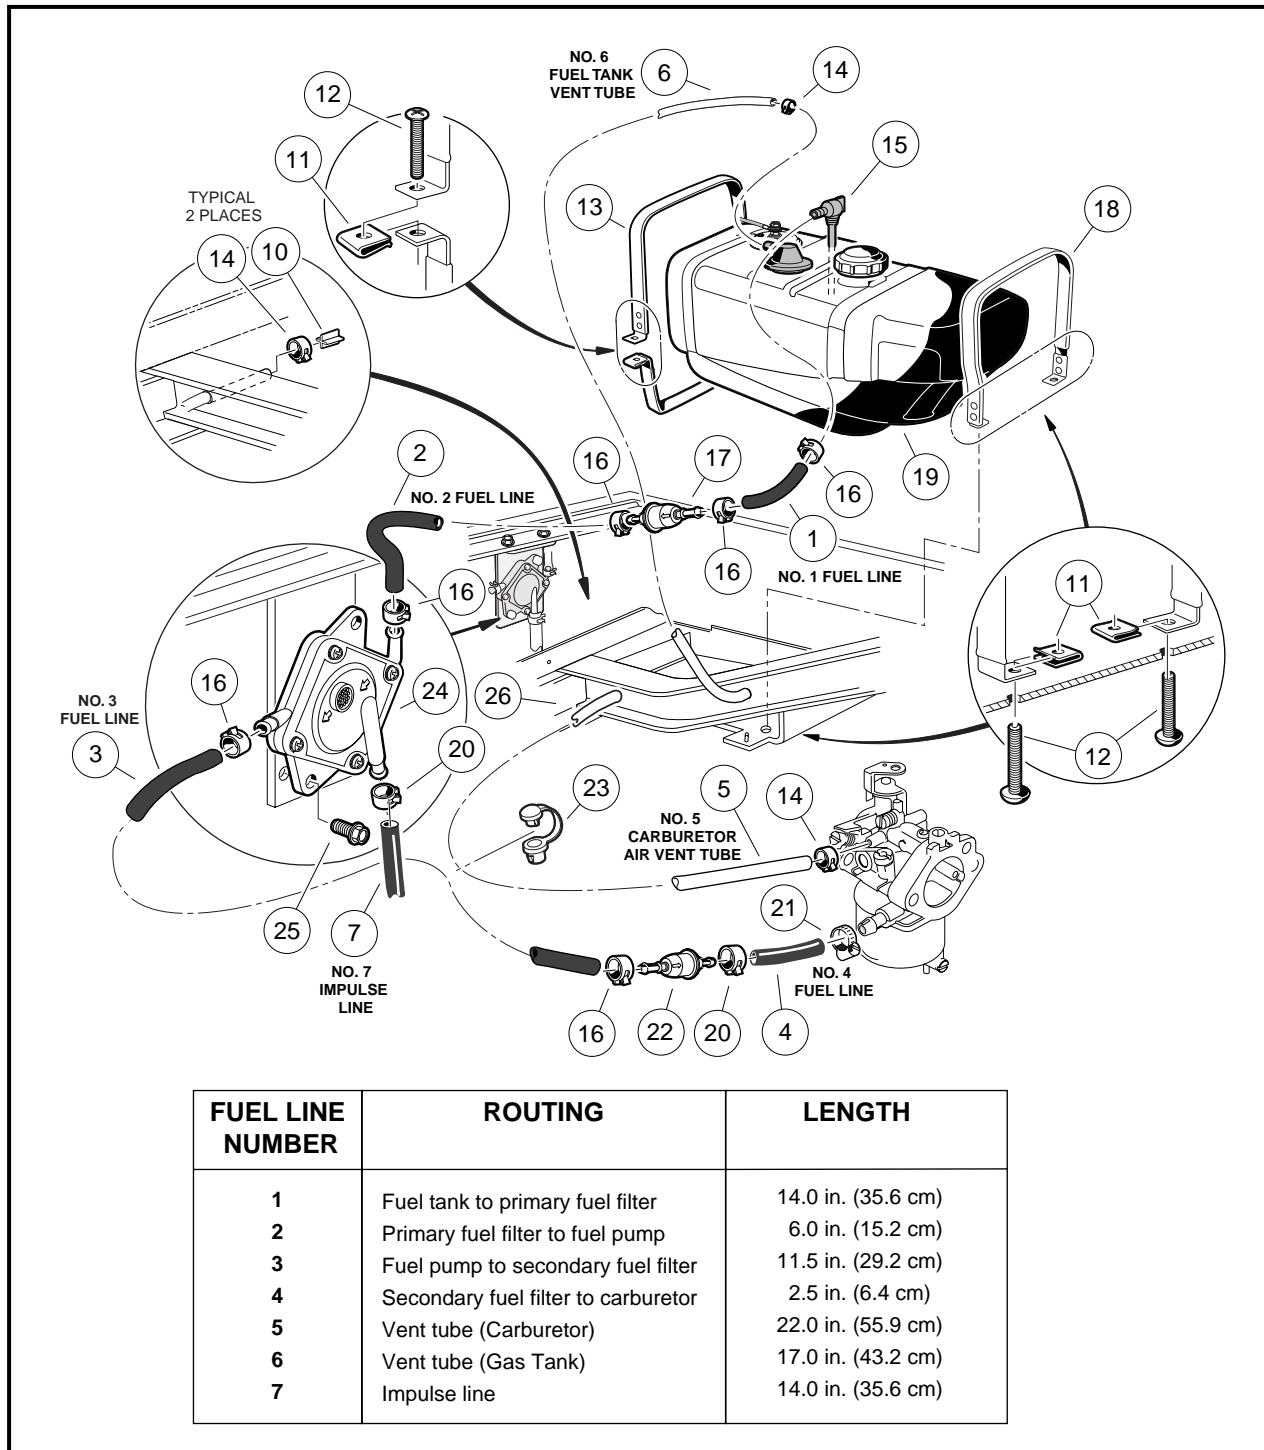

Figure 14-15 Fuel and Vent Lines
Fuel is supplied to the fuel pump and carburetor through flexible lines. Two in-line filters are installed between the fuel tank and the carburetor (**Figure 14-15, Page 14-20**). Fuel filters, fuel lines, and the fuel tank vent should be inspected periodically for leaks.
2. To prevent gasoline drainage, turn the fuel shut-off valve (15) (**Figure 14-15, Page 14-20**) on the gas tank to the closed (OFF) position (**Figure 14-20, Page 14-27**).
3. Remove the primary fuel filter (17) (**Figure 14-15, Page 14-20**):
- 3.1. Remove the clamps (16) and fuel lines (1) and (2) from the filter and plug the fuel lines (**Figure 14-15, Page 14-20**).
4. Remove the secondary filter (22) (**Figure 14-15, Page 14-20**):
- 4.1. Remove the clamps (16 and 20) and fuel lines (3 and 4) from the filter and plug the fuel lines (3 and 4) (**Figure 14-15, Page 14-20**).
1. Install the primary fuel filter (17) in the fuel line. Use new clamps (16) (**Figure 14-15, Page 14-20**).
2. Install the secondary fuel filter (22) in the fuel line. Use new clamps (16 and 20) (**Figure 14-15, Page 14-20**).
2. Remove hardware attaching the fuel pump (24) and lift the fuel pump out of the engine compartment (Figure 14-15, Page 14-20).
3. Remove the clamp (20) and impulse line (7) from fuel pump (**Figure 14-15, Page 14-20**).
4. Disconnect the fuel lines (2 and 3) from the pump and plug them to prevent gasoline leakage (**Figure 14-15, Page 14-20**). See following **WARNING**.
1. Connect to the fuel pump the fuel line (2) that comes from the fuel filter (17). Install a new clamp (16) (**Figure 14-15, Page 14-20**). See same figure for proper routing of fuel lines.
NOTE: Be sure to connect the fuel line (2), that comes from the primary fuel filter (17), to the inlet nipple on the pump. Direction of fuel flow is indicated by the arrows on the fuel pump (**Figure 14-15, Page 14-20**). See also **Figure 14-17, Page 14-22**.
2. Connect to the output side of the fuel pump, the fuel line (3) that goes to the secondary fuel filter (22) (**Figure 14-15, Page 14-20**).
3. Connect the impulse line (7) to the bottom nipple on the fuel pump. Use a new clamp (20) (**Figure 14-15, Page 14-20**).
4. Install the fuel pump onto the mounting bracket with two thread-rolling screws (25) and tighten to 40 in-lb (4.5 N·m) (**Figure 14-15, Page 14-20**).
9. Remove the vent tube (6) and fuel line (1) from the fuel tank (**Figure 14-15, Page 14-20**).
10. Loosen the straps (13) and (18) by removing the screws (12) from the speed nuts (11).
2. Secure the tank with the retaining straps (13) and (18) **(Figure 14-15, Page 14-20)**.
- 2.2. Install the screws (12) into the speed nuts (11). Tighten screws and nuts to 25 in-lb (2.8 N-m) **(Figure 14-15, Page 14-20)**.
4. Connect the vent tube (6) to the gas tank vent (**Figure 14-15, Page 14-20**).
5. Connect the fuel line (1) to the fuel tank shut-off valve (15). Use a new clamp (**Figure 14-15, Page 14-20**).